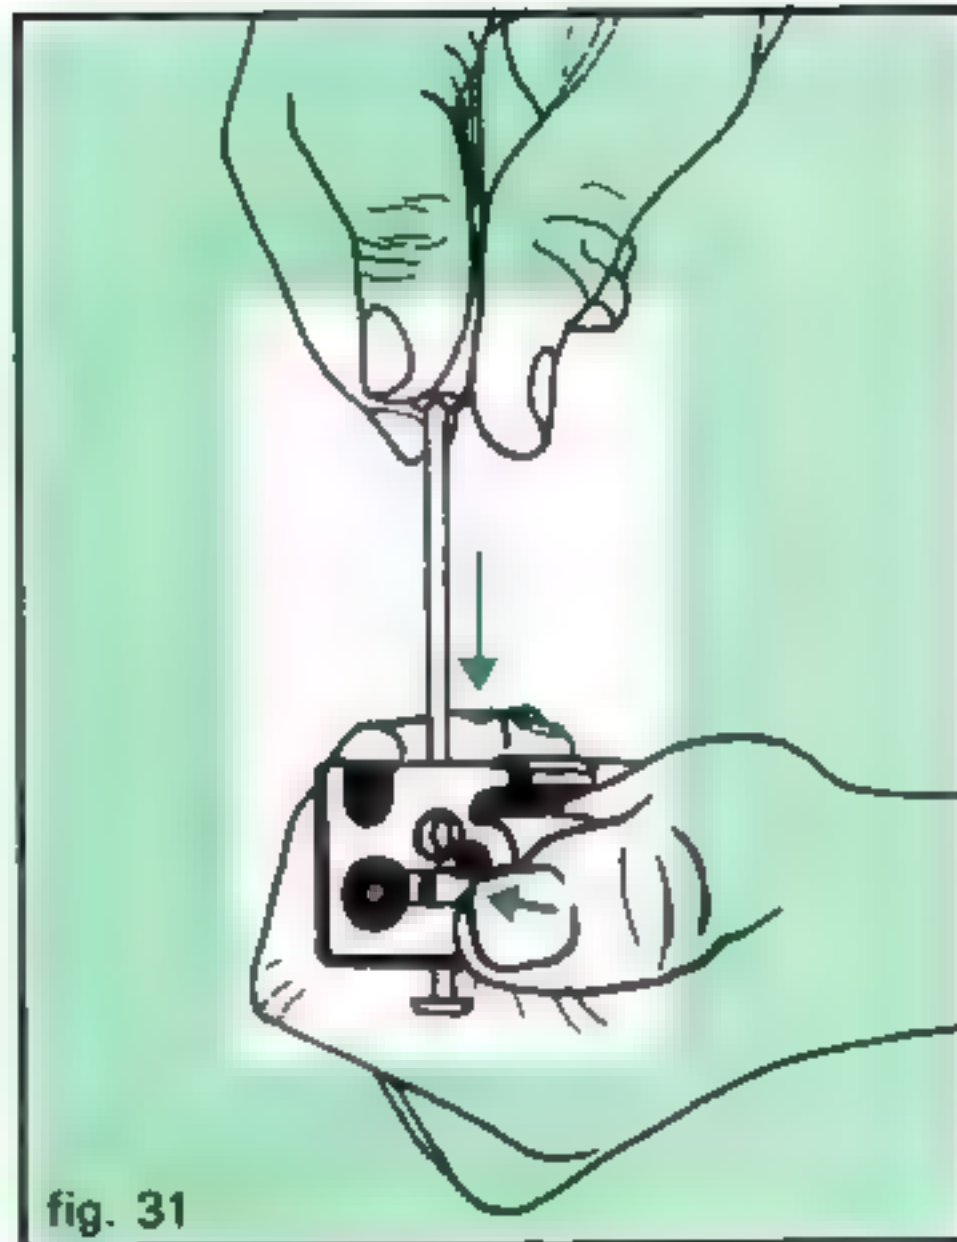

fig. 31
- 1 Using a suitable drift pin (1/8" to 5/32" dia) push out extractor retaining pin from its shank end holding finger over blocking latch keep spring from jumping out (fig. 31), then carefully remove blocking latch with spring